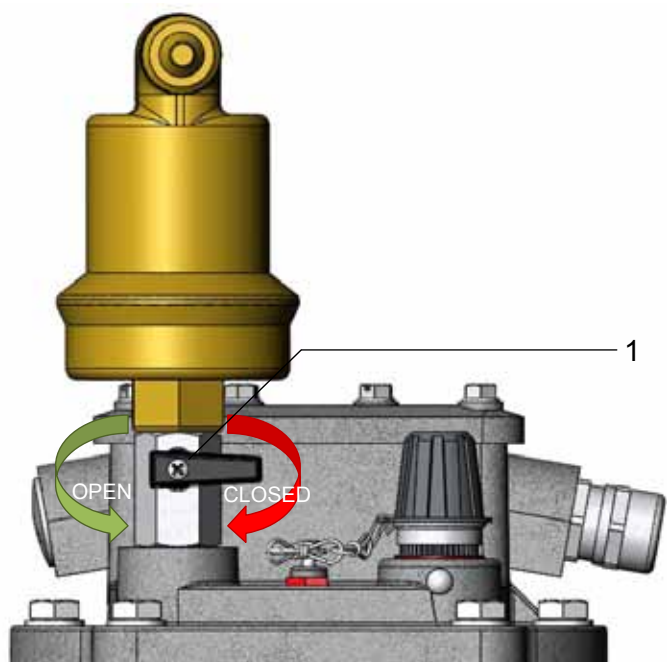

Figure 3 - Automatic bleeder valve
**If the monitoring relay shall be bled automatically during operation, the mini ball valve (Fig. 3/ No. 1) has to be open permanently.**